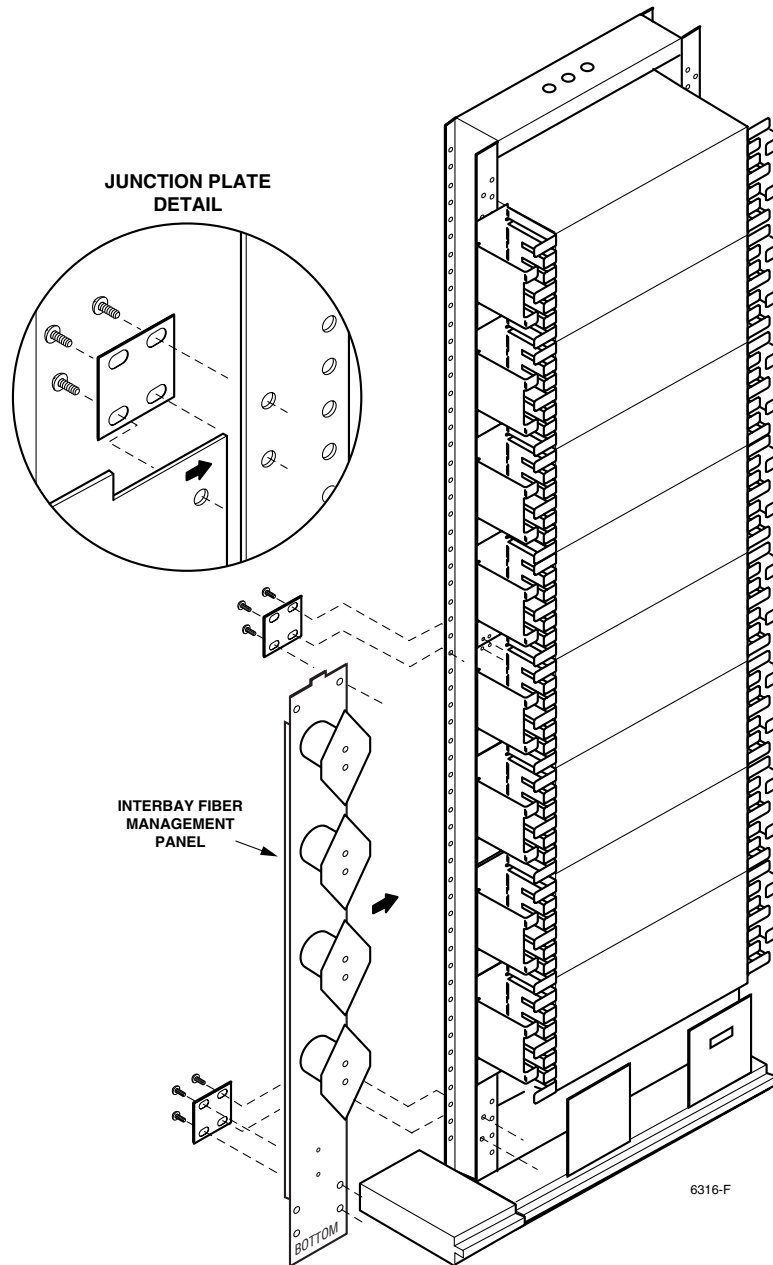

Figure 4. Bottom Panel Installation
1. Set the bottom panel section on the filler guard box with the spools facing toward the front of the frame, as shown in Figure 4.
3. Secure the bottom panel section to the front flange of the adjacent frame using two junction plates and six #12-24 × 1/4-inch machine screws. Use four screws in the lower junction plate and just two screws in the upper junction plate, as shown in Figure 4.